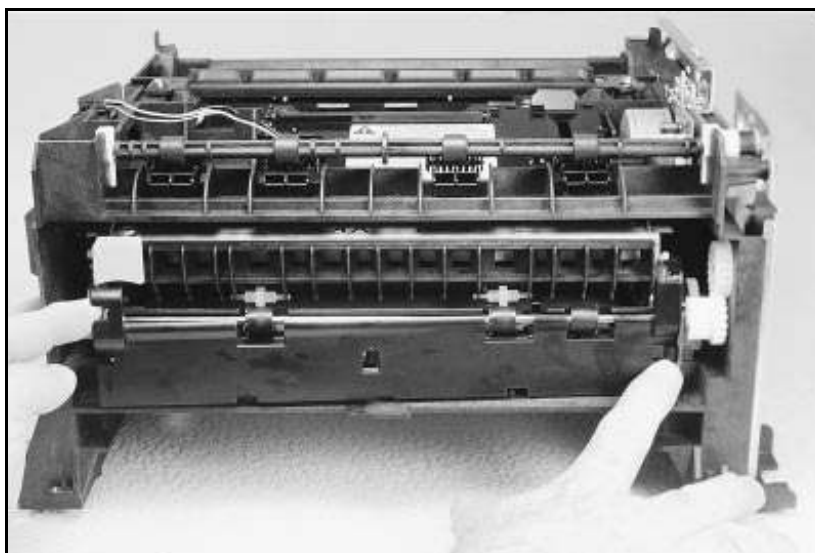

Figure 27 Removing the fuser cover.
2. Locate the black plastic fuser cover at the back of the printer. Press the release tab (callout 1 in Figure 27).
Figure 30 explains how to read the light sequences. The initial sequence (Part 1) shows that ERROR 53 can be indicated by two different light sequences, depending on the X value: ROM (x =0) or in RAM (x =1) . Pressing GO and RESET/JOB CANCEL together produces a secondary light pattern, which reveals the Y- and ZZ-values, which complete the error code (Part II) . The binary Y value is read from the top two LEDS; the binary Z value is read from the lower three LEDS. Part III of Figure 27 shows the binary values of the different light combinations.